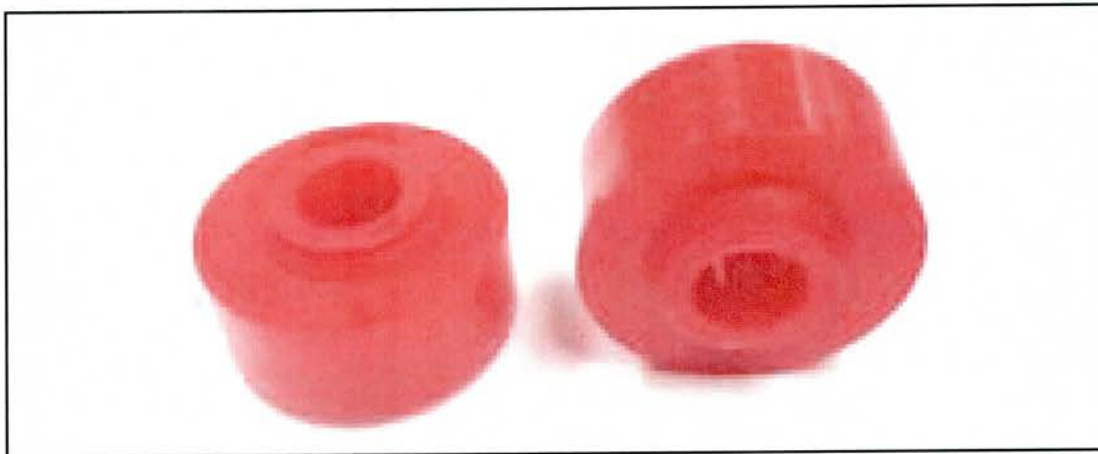

Figure 2.
8. Remove and discard the existing lock nut, washers and red polyurethane bushing from the lower location (stud end) of the drive axle shock absorber (refer to Figure 2).
12. Unfasten and remove the hex nut, retaining washers and the existing red polyurethane bushing from both ends (upper and lower stud end locations) of the shock absorber. Discard the existing lock nut, washers and red polyurethane bushing (refer to Figure 2).